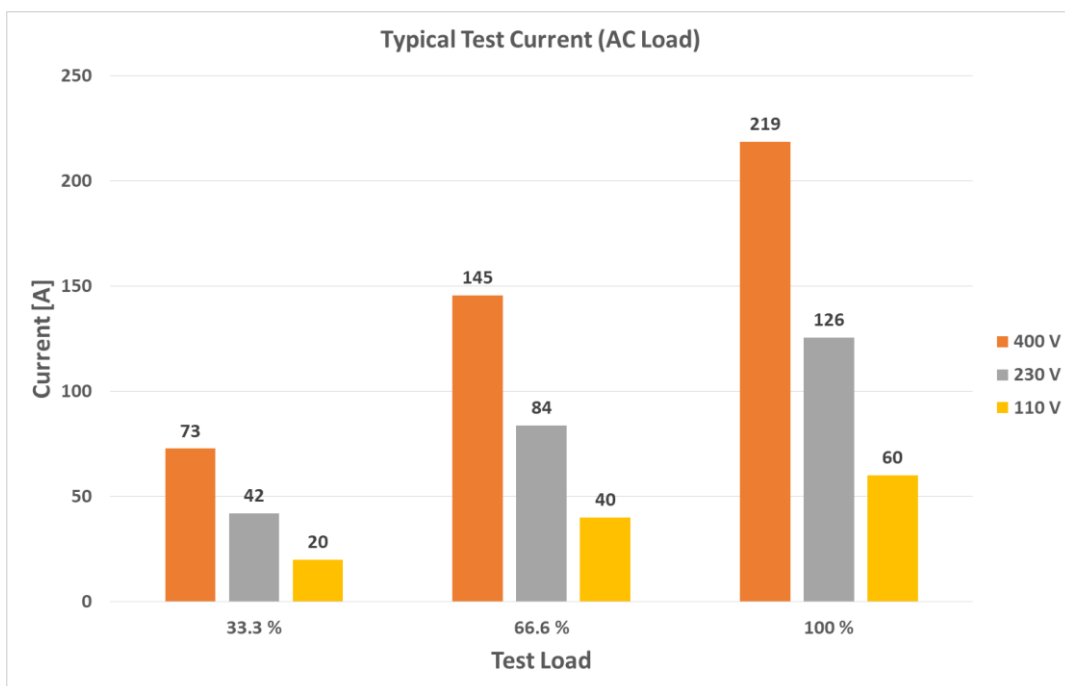

Figure 9.1: Typical test currents (AC Load) in relation to nominal voltage and test load
- Maximum test current see chapter **9.4 Test Current, Figure 9.1**
Maximum test current see chapter **9.4 Test Current, Figure 9.1**